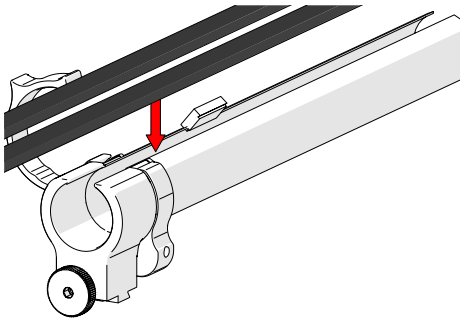

Fig. 178 - Insert cables and hoses
1. Open the cable management. Begin at the tube's dovetail mount and place the cabling in the tube (*Fig. 178*).